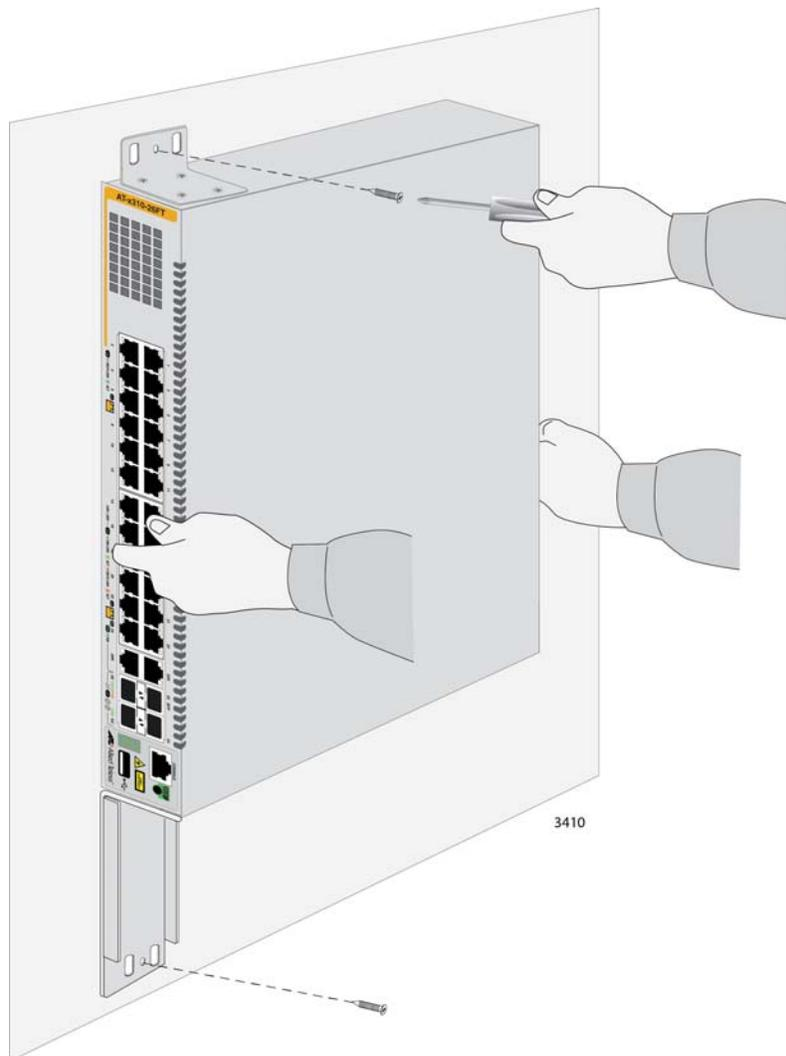

Figure 28. Installing the AT-x310-26FT Switch on a Wall
9. Have another person hold the switch at the selected wall location while you secure it to the wall with the two provided screws. Refer to Figure 28. Be sure to observe the following guidelines as you install the switch on the wall: